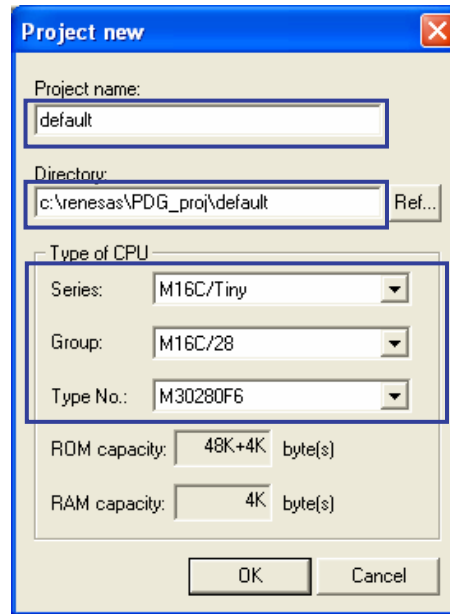

Figure 3.3-1 [Project new] Dialog Box
- [1] Select [File] -> [Create New Project] to open the [Create New] dialog box (see Figure 3.3-1).